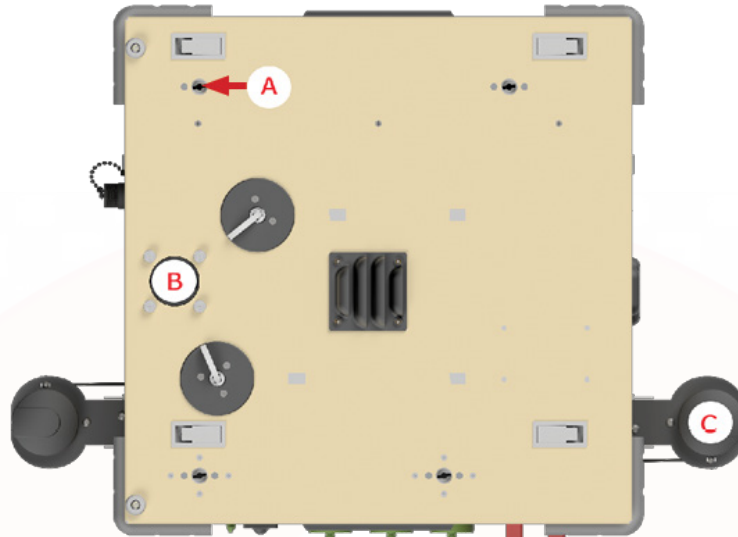

Figure 12: Tether Kit - Top View
1. Remove the Tether Kit from the transit case and place on level surface, noting the four mounting receptacles on top (**Figure 12, A**). These receptacles are used to mount the landing ring, which is described below (**see Step 8**).
2. Verify screws around tether connector are secure (4x) (**Figure 12, B**). Do not over tighten as damage to funnel neck will occur.
4. Flip up ground GPS (2x) and verify unobstructed view of sky (**Figure 12, C**). Ensure click locks are engaged.
8. Install the Landing Ring onto the top of the Tether Kit by aligning the ¼ turn fasteners (**Figure 12, A**) on the Landing Ring bracket legs with the mounting receptacles on top of the Tether Kit.